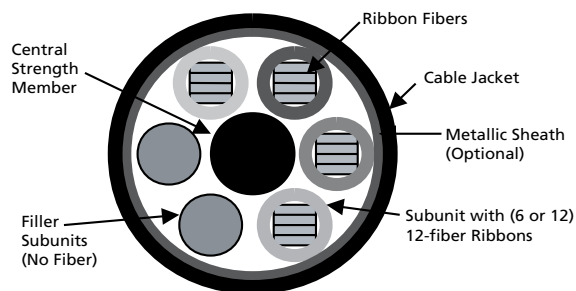

Figure 1
- Ribbon in loose buffer tube (RLBT) outside plant (OSP) – see Figure 1